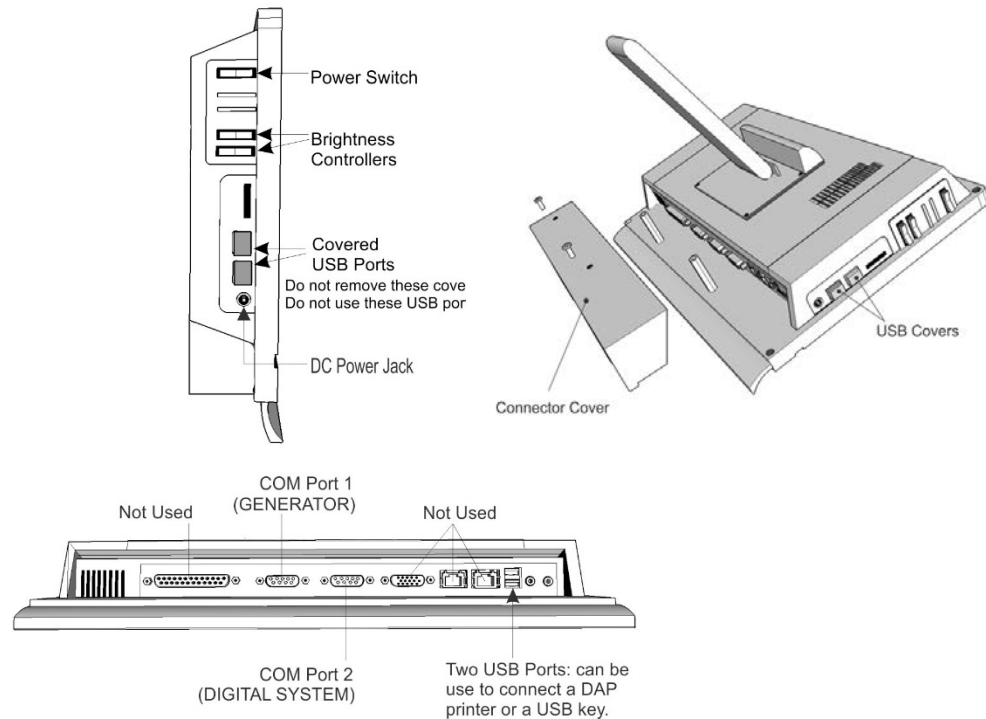

Figure 2-4 The cover of connectors of the touchscreen
Figure 2-4 illustrates the connectors and the covers of the 15.6-inch touchscreen console.
1. Remove the two screws securing the Connector Cover to the touchscreen console (see Figure 2-4).
3. Route all the cables through the slots of the Connector Cover (see Figure 2-4).
10. Connect the console power supply, part number 789-136-9300 to the DC Power Jack on the touchscreen console (see Figure 2-4).
- 819-989-3100 (UK)
1. Refer to Figure 2-4.
2. Connect the DAP printer to the USB port (Figure 2-4) on the touchscreen console.